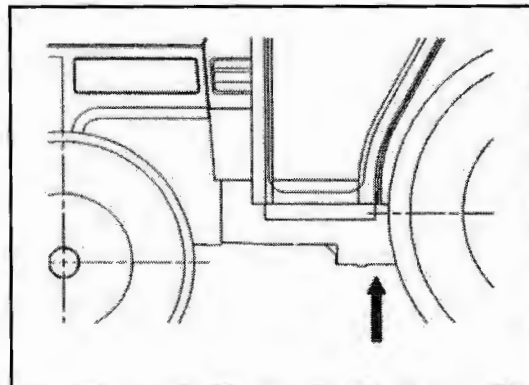

Fig. 36-4 - Clutch Pedal
Using a grease gun, apply all purpose grease in the lubricating nipple (1). (See Fig. 36-4).